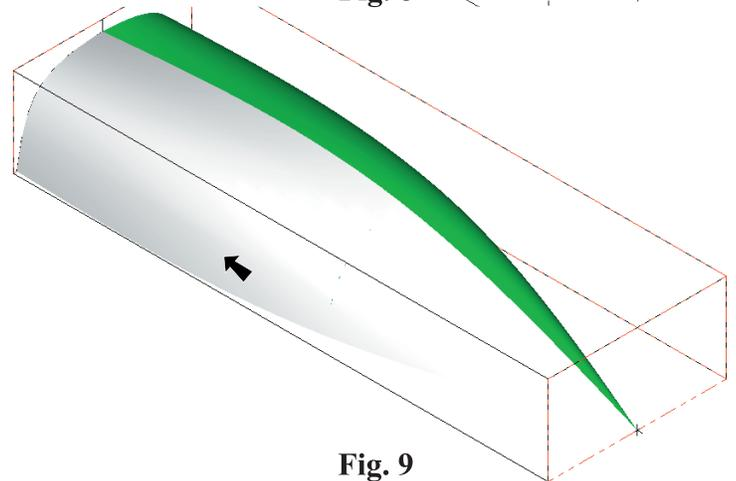

Fig. 9
Step 7. Click one surface, **Fig. 9**.